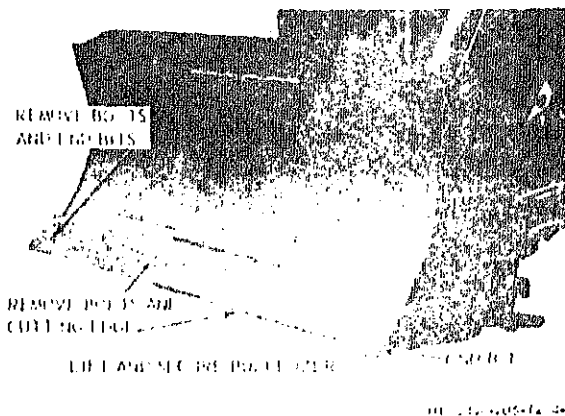

Figure 4-1. Bulldozer cutting edge and end bits, removal and installation.
a. *Removal.* Remove bulldozer end bits as illustrated in figure 4-1.
(1) Clean all parts and dry thoroughly.
(2) Inspect for wear, cracks, breaks and other damage. Replace defective parts as necessary.
c. *Installation.* Install bulldozer end bits as illustrated in figure 4-1.
a. *Removal.* Remove bulldozer cutting edge as illustrated in figure 4-1.
c. *Installation.* Install bulldozer cutting edge illustrated in figure 4-1.